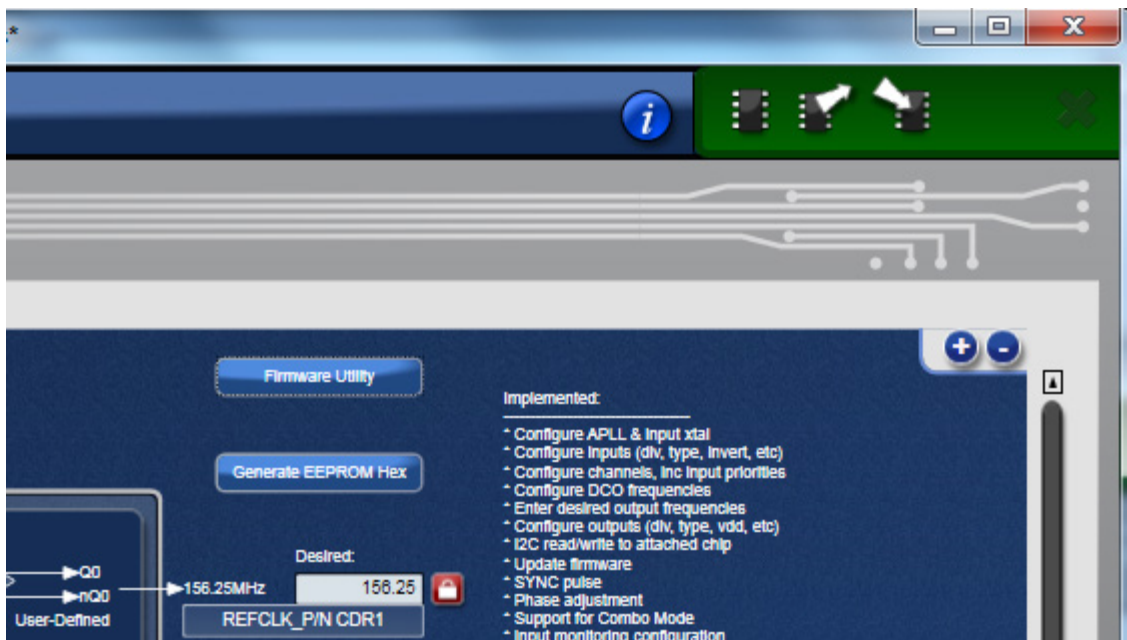

Figure 10. Green Band Appears when a Valid Connection is Made
- Click on the chip symbol at the upper-right corner to initiate the connection. The connection is valid when a green band appears at the upper-right corner of the window, as shown in Figure 10.